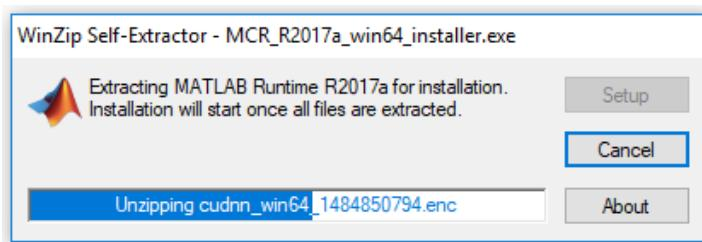
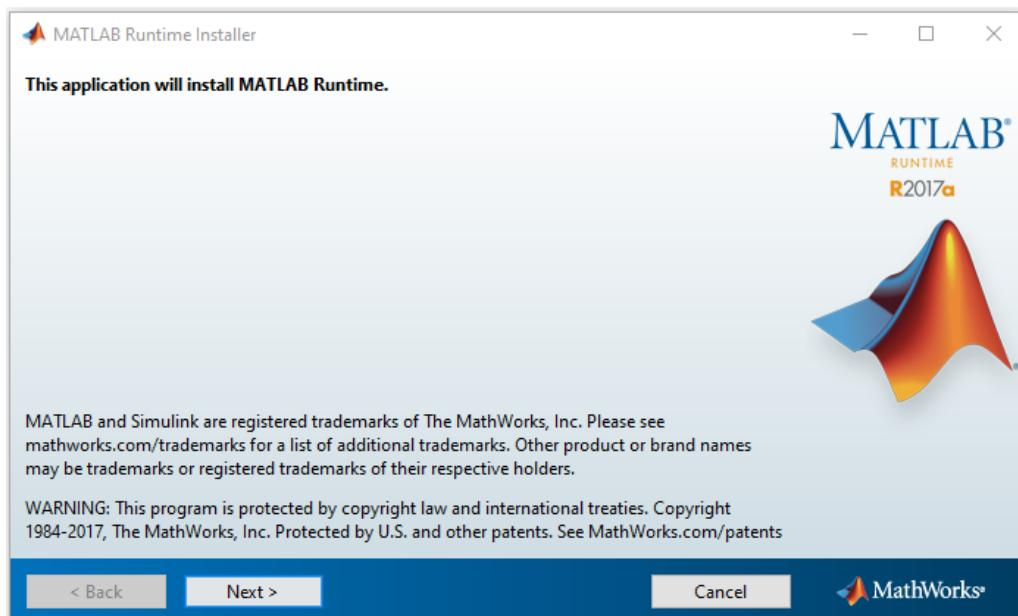

Figure 2.1
Figure 2.2
2. MATLAB® Compiler Runtime R2017a (9.2) is freely available on MATLAB® website (MATLAB Compiler). User needs to download MATLAB® Compiler Runtime R2017a (9.2) software. User has to make sure that downloaded file name is “`MCR_R2017a_win64_installer.exe`”. User needs to double click the file to start the installation. During the installation, if any warning or permission requests shows up, user should select “Yes” or “Accept” to continue the installation. After Matlab Runtime installer extracts necessary files (Figure 2.1), user needs to click Next button to continue installation (Figure 2.2).